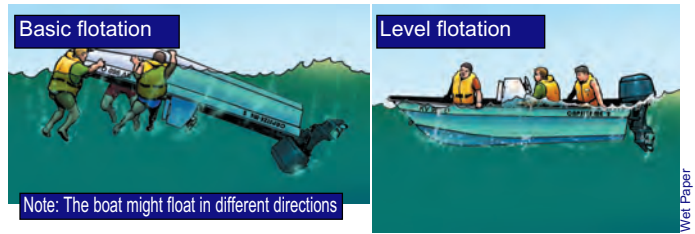

Figure 8.1 Basic and level flotation
- Basic flotation - the boat will remain afloat either by the bow or upside down (see Figure 8.1 left).
- Level flotation means the boat will remain in a level position (see Figure 8.1 right).